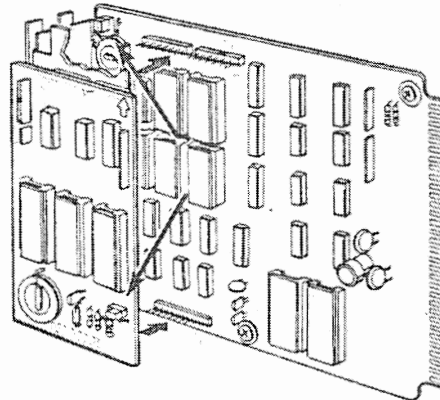

FIGURE 22
- Refer to Figure 22 and verify that the battery on the MCCU (and CRDU, if equipped) is connected to ensure that data changes entered after initialization will not be lost due to power failure.